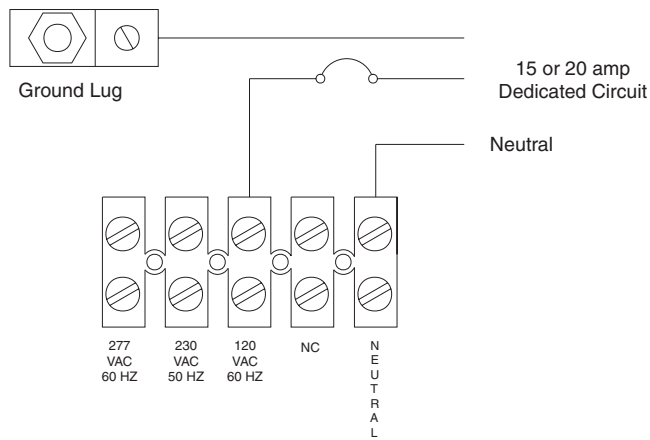

Figure 4- Power Supply Input Wiring
1. Connect a dedicated 15 or 20 amp branch circuit breaker to the power supply input. See *Figure 4*. This input can be 120, 230 or 277 VAC (50 or 60 Hertz) as labeled on the cabinet. The power supply input requires a maximum of 300VA in a fully loaded and configured system. Connect a suitably sized ground conductor to the ground lug. See *Figure 4*.